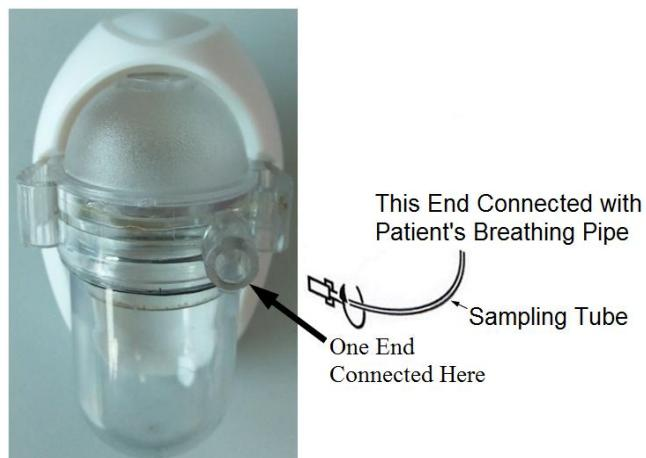

Figure 6.45 Dewatering Bottle Connecting Diagram
3. As shown in Figure 6.45, connect one end of the sampling tube with the dewatering bottle's threaded nipple and the other end with the breathing tube of the patient's breathing machine or anesthesia machine or with the threaded nipple having a diameter of φ10mm in other airways (a section of connecting tube having a φ10mm threaded nipple needs to be connected if such source nipple is not available), or directly fixing the sampling tube to the patient's nostrils by using adhesive tape.